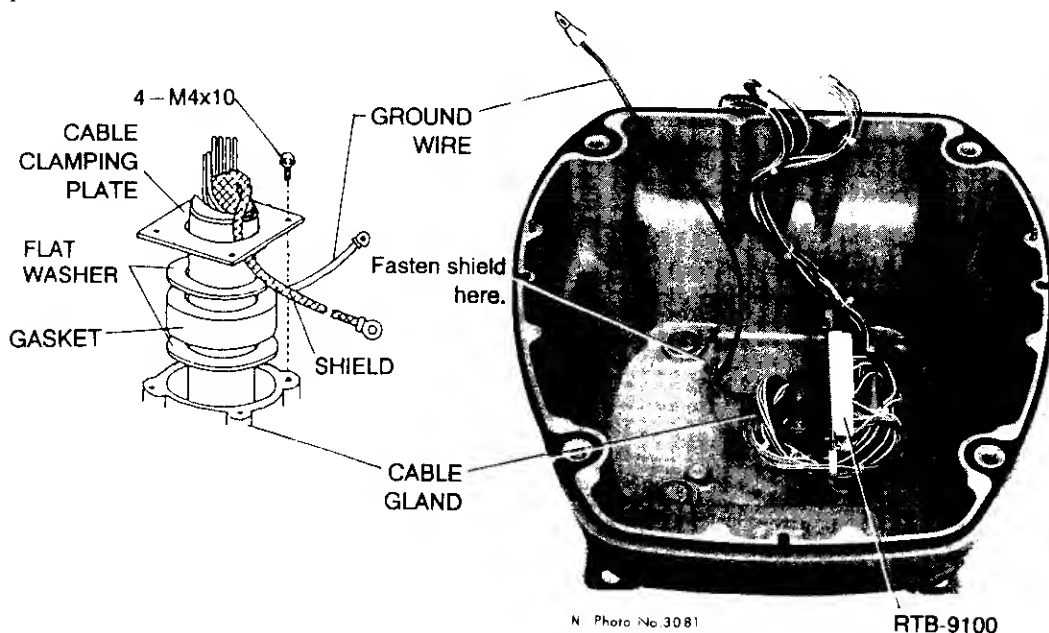

Figure 6-3 Passing the signal cable through the scanner housing
5. Connect the lead wires to RTB-9100 in the scanner housing by referring to the Interconnection Diagram on page S-1. Fasten the shield (inner and outer combined) at the bottom of the scanner housing as shown in Figure 6-3.